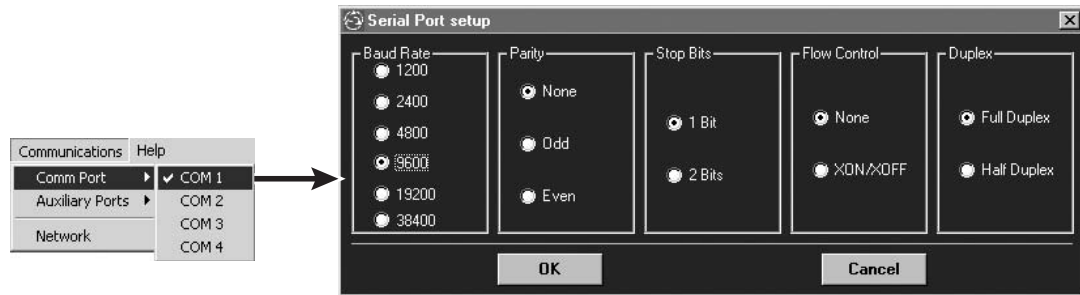

Figure 4-3 — Serial Port setup window
2. Click *Communications > Comm Port > Comm 1* (or the correct Comm port). The Serial Port setup window appears (figure 4-3).